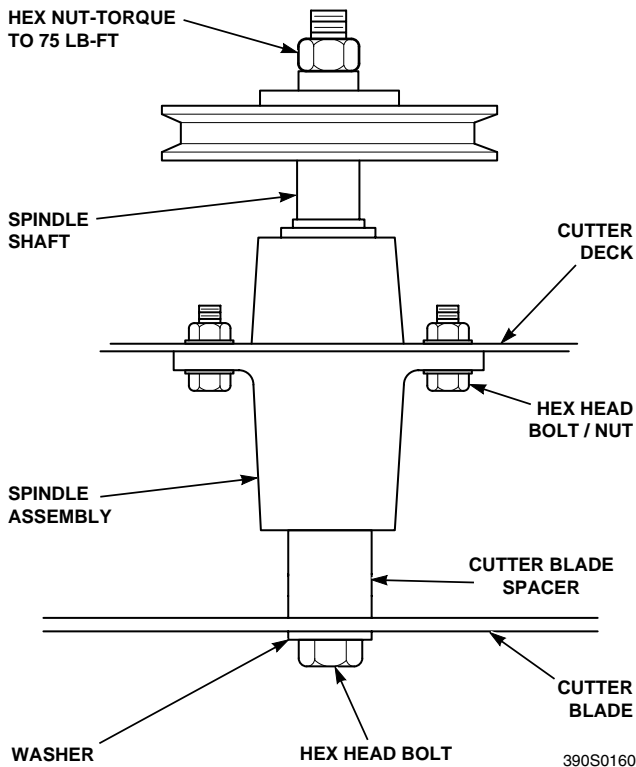

Figure 7-10 Blade Replacement
- Secure the cutter blades to prevent them from rotating, (use the optional Blade Buddy tool, P/N 9212, to assist in securing the cutter blades), remove the nut from the blade attaching bolt. Remove the cutter blade, bolt and spacer from the spindle shaft. (Figure 7-10)
- Install the hex nut to the blade bolt at the top of the cutter spindle. Secure the blades from rotating and torque to 75 ft-lbs. (See Figure 7-10)